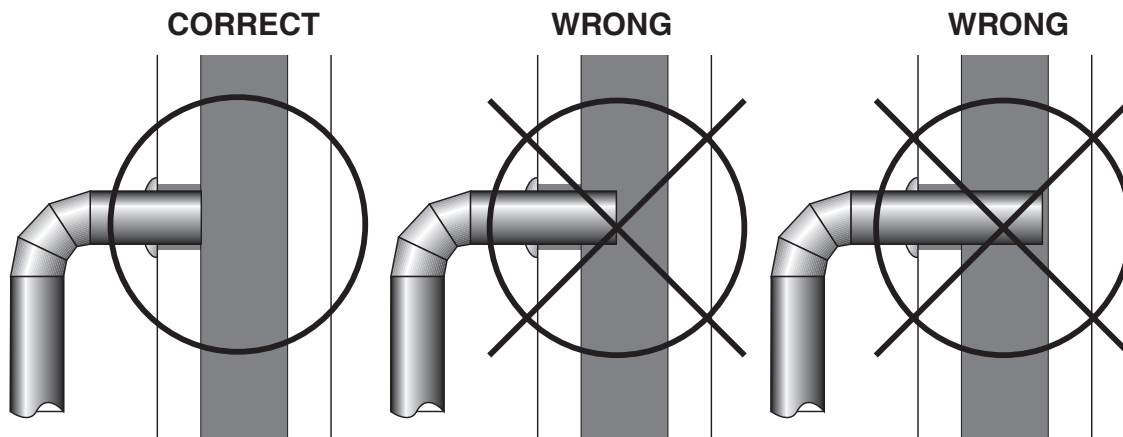

Fig. 10 – Stovepipe/Flue Connections
4. The pipe cannot extend into the chimney flue (figure 10).
5. Secure pipe/elbow sections with a minimum of three (3) equally spaced sheet metal screws at each joint and at the stove collar to make the pipe rigid.
6. It is recommended that no more than two (2) 90° bends be used in the stovepipe installation. The use of more than two 90° bends may decrease the amount of draw and possibly cause smoke spillage. Where possible, use only corrugated (nonadjustable) elbows. These provide a better seal.
2. Install a fire clay (5/8” minimum thickness) thimble. Make sure the thimble is flush with the inner surface of the chimney liner and does not protrude into the flue (see figure 10 ).
4. Install the stovepipe into the thimble as far as possible without extending past the flue lining (see figures 10 & 11).